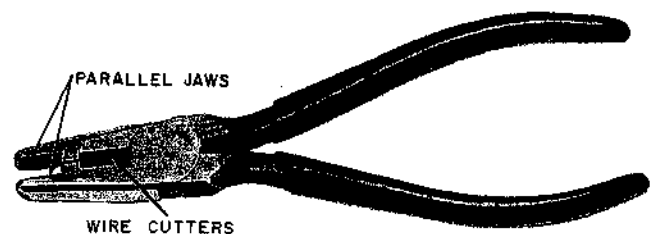

Fig. 2—C Pressing Pliers
2.02 The C Pressing Pliers (Fig. 2) is a tool developed expressly for pressing the UG SCOTCHLOK Connector. The jaws are machined so they are nearly parallel when the unpressed connector is in place between the flats of the jaws. This important feature prohibits an initial cocking or tilting of the green button.